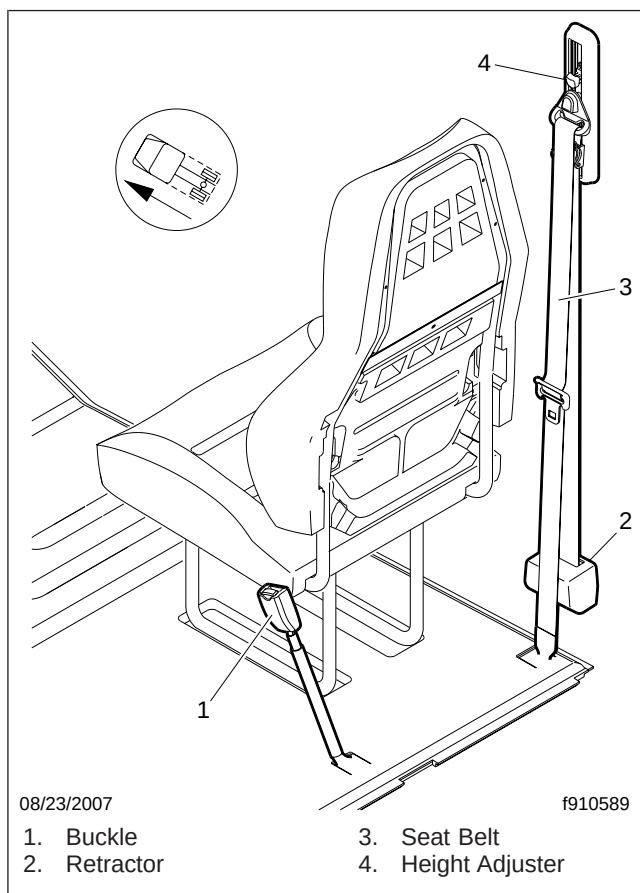

Fig. 2, Seat Belt Installation, Static Seats
2. Remove the Torx capscrews that attach the seat-belt brackets to the cab deck; see Fig. 2. Remove and discard the buckle-side of the seat belt.